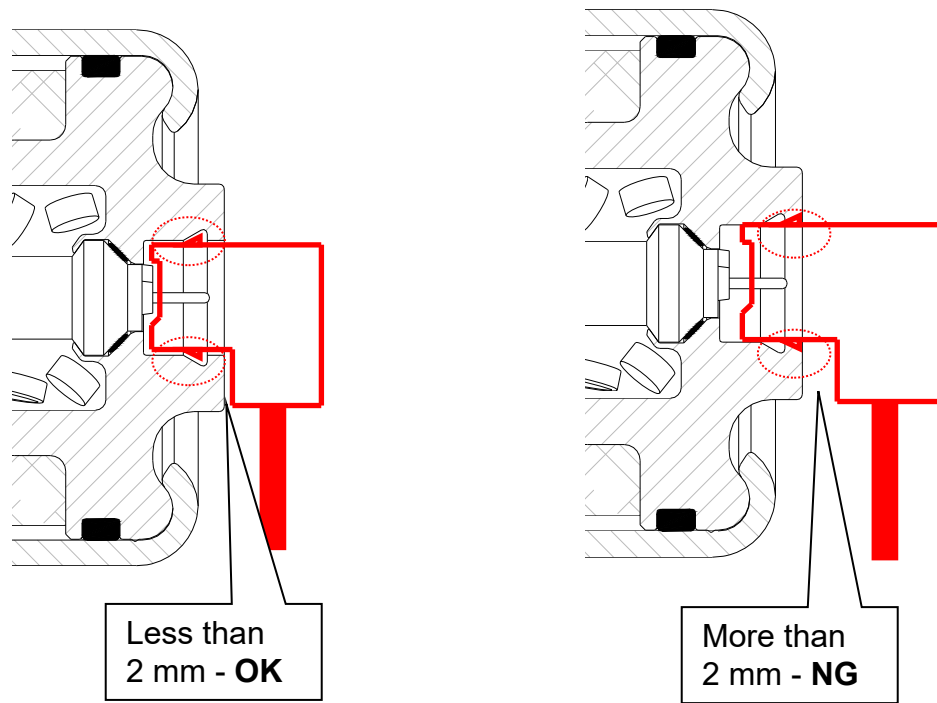

Figure 33
- Make sure the inflator connectors are fully engaged / seated (see Figure 33).